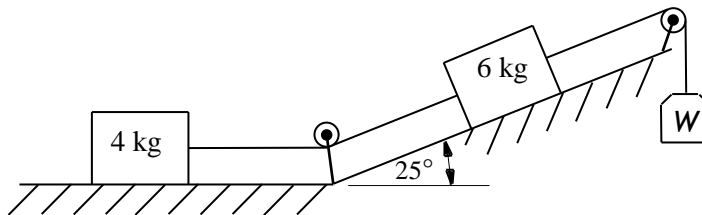

Fig Q2
2. A block of mass 4 kg rests on a horizontal plane and a second block of mass 6 kg rests on a plane inclined at 25° to the horizontal. The blocks are connected together by a light inextensible wire passing under a pulley as shown in Fig Q2.